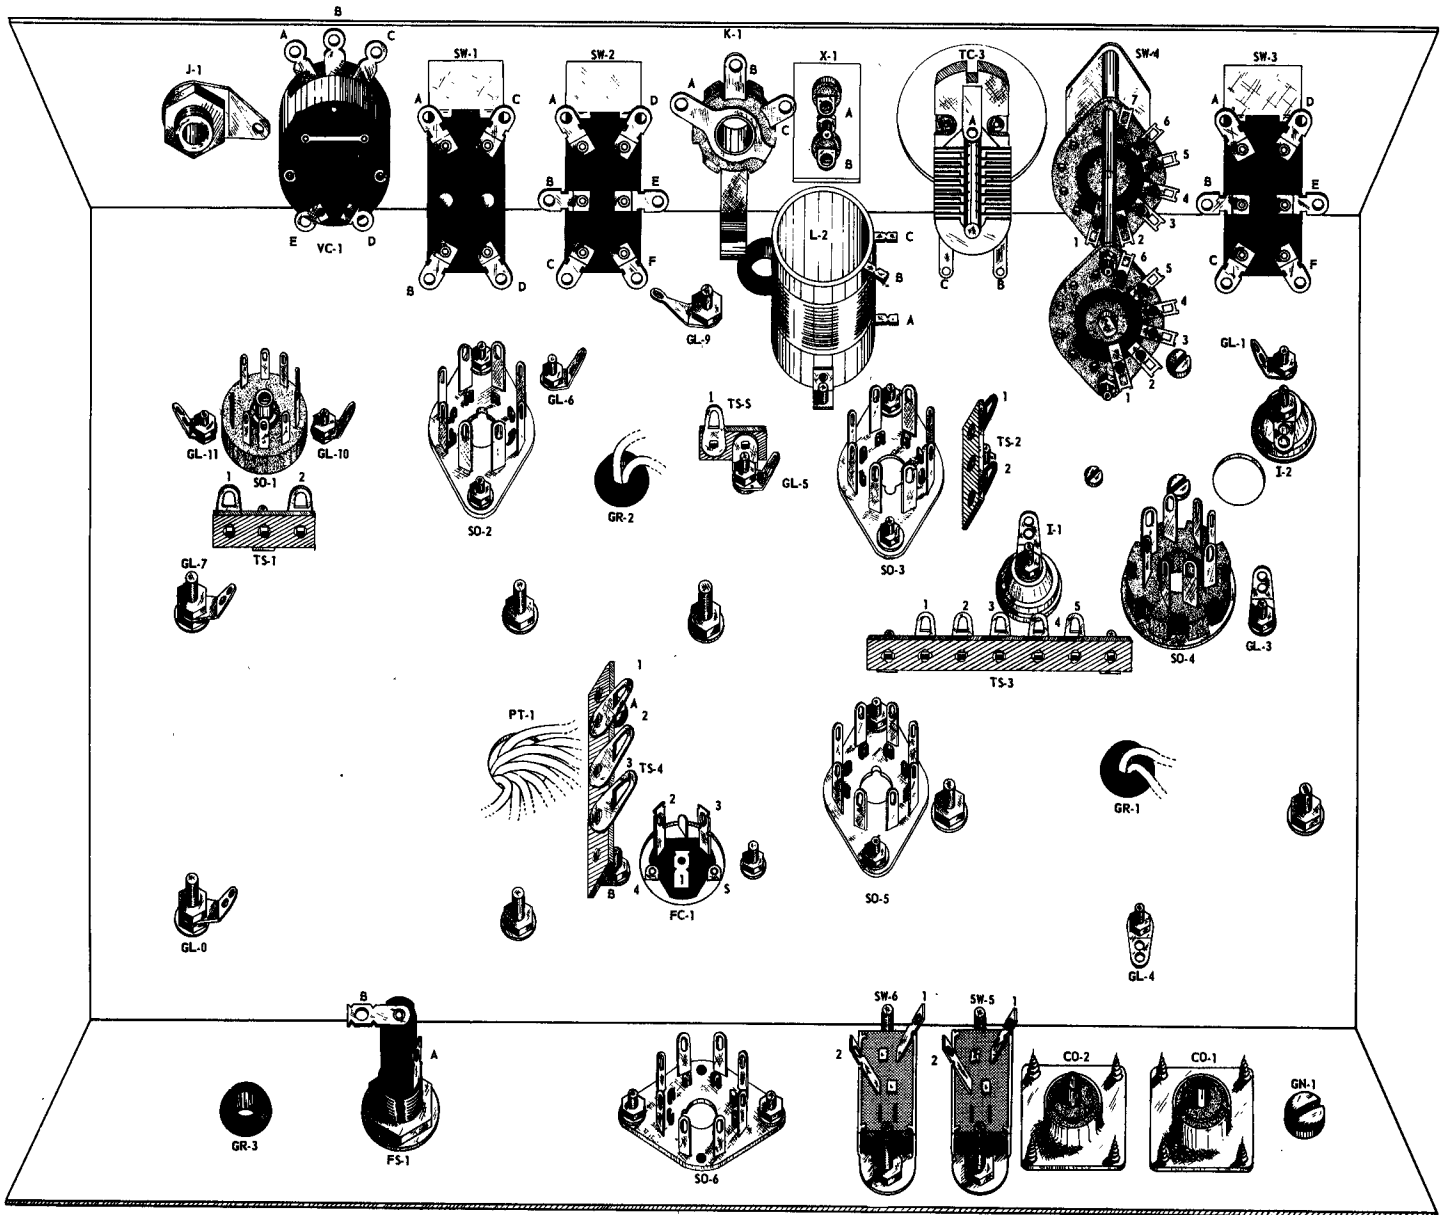
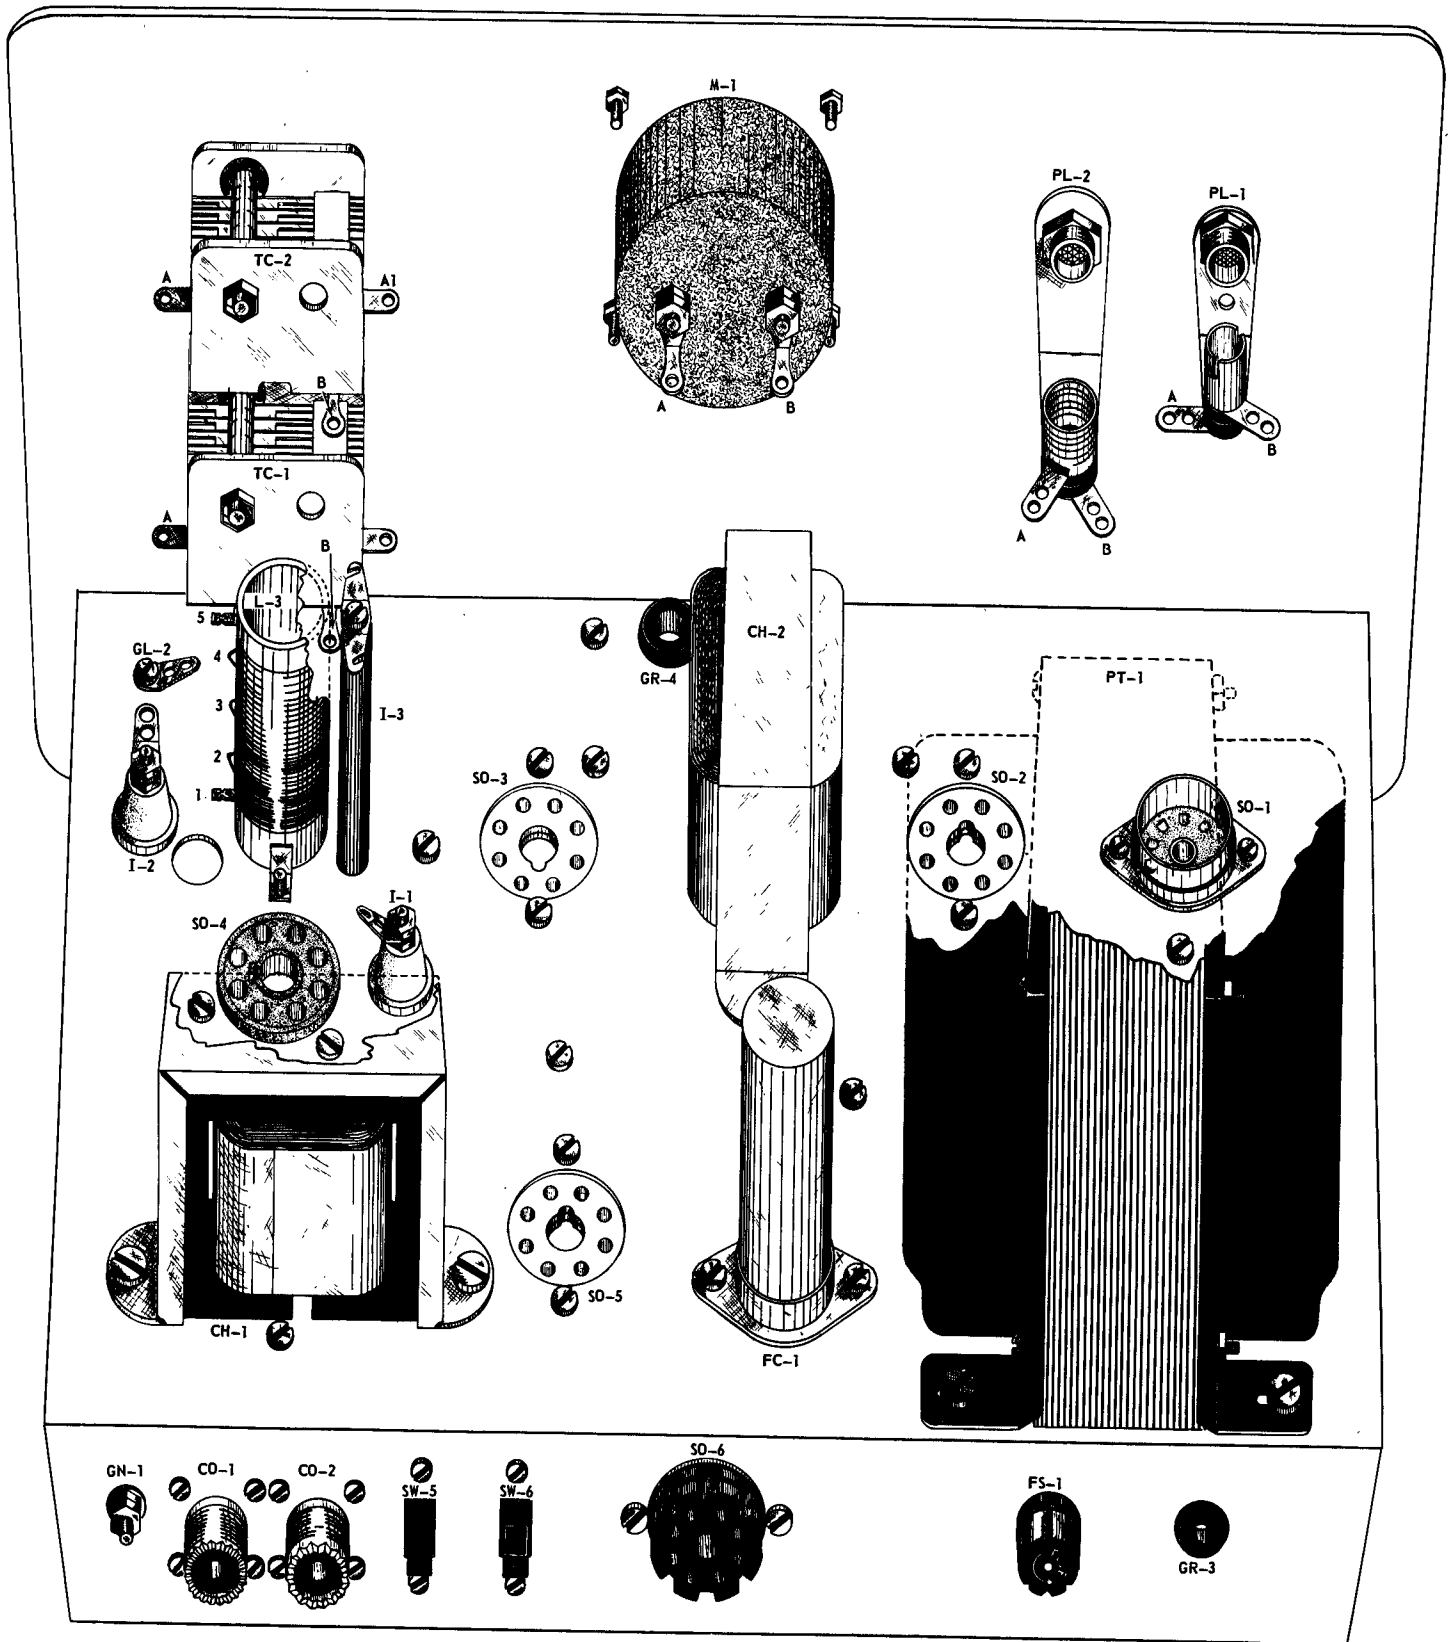

Figure 2. Bottom View, Parts Mounting.
Figure 3. Top View, Parts Mounting.
- 1. Unpack the punched chassis and lay it on a table, open side towards you. Position the chassis so that the holes may be identified as per Fig. 2.
- 4. Install these grommets in their respective holes as shown in Fig. 2.
- 5. The remaining rubber grommet (1/2") is GR-4. Install as per Fig. 3.
- 6. Install an octal wafer socket in the chassis hole marked S0-2. The socket should be mounted on the inside of the chassis. Position the socket key way as shown in Fig. 2. Use two each 6-32x5/16" screws, #6 lockwashers and 6-32x1/4" hex nuts. Tighten securely.
- 7. Install an octal wafer socket in the chassis hole S0-3. Refer to Fig. 2 for
- 8. Install an octal wafer socket in the chassis hole S0-5. Refer to Fig. 2 for correct key way positioning. Secure the socket using two each 6-32x5/16" screws, #6 lockwashers and 6-32x1/4" hex nuts. Tighten securely.
- 9. Install an octal wafer socket in the chassis hole S0-6. Refer to Fig. 2 for correct key way positioning. Secure the socket using two each 6-32x5/16" screws, #6 lockwashers and 6-32x1/4" hex nuts. Tighten securely.
- 10. Install the octal mica filled socket in the chassis hole S0-4. Place the socket into the hole from the top of the chassis. Position the key way as shown in Fig. 3. Install the socket retainer ring making certain it is firmly seated in the socket groove.
- 11. Install the 9-pin miniature socket in chassis hole S0-1. Position the socket lugs as per Fig. 2. Secure the socket with two each 2-56x3/8" screws, 2-56x3/16" hex nuts and #4 lockwashers. Tighten securely but be careful not to strip the screw threads or break the screws.
(b) Insert the fuse post into hole FS-1 from the outside of the chassis. Position the fuse post lugs as shown in Fig. 2.
13. Install slide switch SW-6 from the inside of the chassis. Only the black bakelite handle should protrude through the slot in the chassis. Position the two switch lugs as shown in Fig. 2. Secure the switch with two each 4-40x 3/8" screws, #4 lockwashers and 4-40x 3/16" hex nuts. Tighten securely.
18. Mount a 2-lug tie strip TS-1 on the hole near socket SO-1. Use a 6-32x 5/16" screw, a #6 lockwasher and a 6-32x $\frac{1}{4}$ " hex nut. Position the tie strip as per Fig. 2 and tighten securely.
19. Mount a 2-lug tie strip TS-2 on the hole near SO-3. Use a 6-32x5/16" screw, a #6 lockwasher and a 6-32x $\frac{1}{4}$ " hex nut. Position the tie strip as per Fig. 2 and tighten securely.
32x5/16" screws, #6 lockwashers and 6-32x $\frac{1}{4}$ " hex nuts. Position the tie strip as per Fig. 2 and tighten the nuts securely.
21. Mount one end of the 3-lug tie strip TS-4 on the chassis in hole marked "A". Use a 6-32x5/16" screw, a #6 washer and a 6-32x $\frac{1}{4}$ " hex nut. Position the tie strip as per Fig. 2, align the remaining mounting hole with chassis hole marked "B". Securely tighten nut on screw in hole "A".
22. Install the mounting plate for the filter capacitor FC-1 on the chassis hole FC-1. The plate should mount on the top side of the chassis. Position the slots of the plate as per Fig. 2. Use two each 6-32x5/16" screws, #6 lockwashers and 6-32x $\frac{1}{4}$ " hex nuts. Center the mounting plate slots in the chassis hole, then secure the nuts. This action also completes the mounting of tie strip TS-4.
(c) Position the tie strip and lug per Fig. 2.
25. Mount the two #6 grounding lugs GL-1 and GL-2. GL-2 mounts on the top side of the chassis (position as per Fig. 3) and GL-1 mounts on the underside of the chassis (position as per Fig. 2). Use a 6-32x5/16" screw and a 6-32x $\frac{1}{4}$ " hex nut to secure the lugs. Screw-head should be on top side of the chassis.
26. Mount a #6 grounding lug, GL-3, in the hole near socket SO-4. Use a 6-32x 5/16" screw and a 6-32x $\frac{1}{4}$ " hex nut. Position the lug per Fig. 2 and tighten the nut securely.
1 and 00-2. Use a 6-32x5/16" screw and a 6-32x1/4" hex nut. Position the lug per Fig. 2 and tighten the nut securely.
28. Install a #6 grounding lug, GL-6, in the hole near socket SO-2. Use a 6-32x5/16" screw and a 6-32x1/4" hex nut. Position the lug per Fig. 2 and tighten the nut securely.
(f) Position the lug as per Fig. 3 and securely tighten the nut.
30. Remove one of the 6-32x1/4" hex nuts and the flat washer from the short end of insulator I-1 (underside of chassis). Place a #6 grounding lug on the screw. Add the flat washer and finally the 6-32x1/4" hex nut previously removed. Position the grounding lug per Fig. 2 and tighten the nut securely.
32. Mount the oscillator coil L-2 on the underside of the chassis near socket SO-3. Place the threaded mounting lugs over the mounting holes in the chassis. Make certain the coil tap lugs face as shown in Fig. 2. Use two 6-32x5/16" screws to secure the coil. Install the screws from the top side of the chassis. Tighten securely.
33. Mount the modulation choke CH-2 in position as per Fig. 3. Insert the two choke leads through grommet GR-2 then align the mounting holes. Use a 8-32x1/2" screw, a #8 lockwasher and an 8-32x5/16" nut for each mounting hole. A #8 grounding lug GR-9 should also be placed on the mounting screw nearest the front panel. Position the lug as per Fig. 2. Tighten both nuts securely.
34. Mount the filter choke CH-1 in position as per Fig. 3. Insert the choke leads through grommet GR-1 then align the mounting holes. Use two each 8-32x1/2" screws, #8 lockwashers and 8-32x5/16" hex nuts. Tighten securely.
36. Select the two #8 grounding lugs GL-7 and GL-8. Place one each over two of the transformer mounting screws as per Fig. 2. Secure each with an 8-32x5/16" hex nut.
capacitor mounts on the top side of the chassis. Insert the three condenser tabs into the three slots of the mounting plate as per Fig. 2. Press the condenser firmly against the plate then twist each tab one-eighth of a turn with a pair of pliers. This will secure the condenser to the mounting plate.
- 39. Mount the double-ended #6 solder lug on the top end of insulator I-3. Use a #6 $\times\frac{1}{4}$ " self-tapping screw. Position the lug as per Fig. 3 and tighten the screw.
- 40. Install the pi network coil L-3. Use the two remaining small holes near socket SO-4. Slip a #6 lockwasher over each of two 6-32 $\times\frac{5}{16}$ " screws and insert the screws from the underside of the chassis. Position the coil as per Fig. 3. The coil taps should face